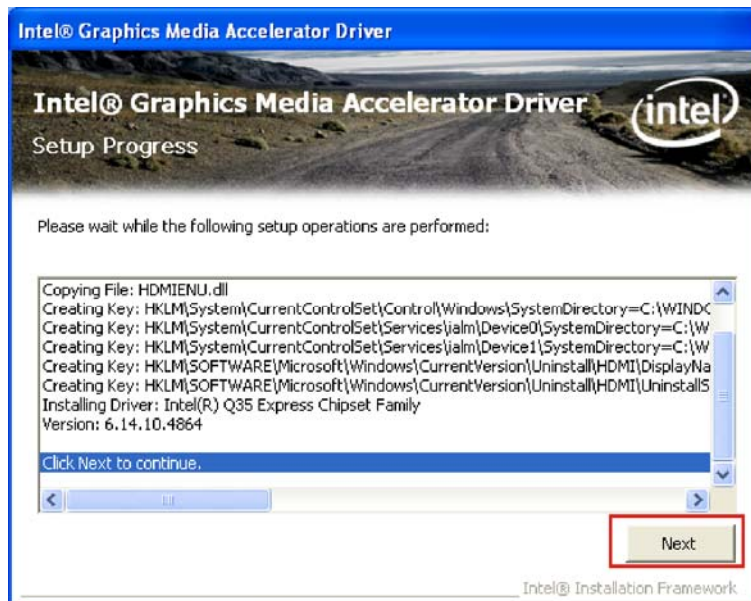

Figure 7-13: GMA Driver Installation Complete
Step 12: The driver installation progress is shown (Figure 7-13).